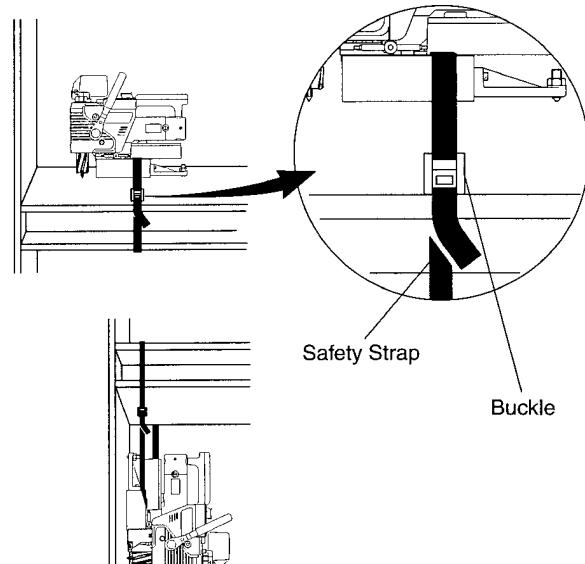

Fig. 3
- Use the safety strap to fix the unit to the work piece when there is a risk that it might fall off from a high place or tumble over if for some other reason the power stops and the magnet is lift off. (Fig. 3)